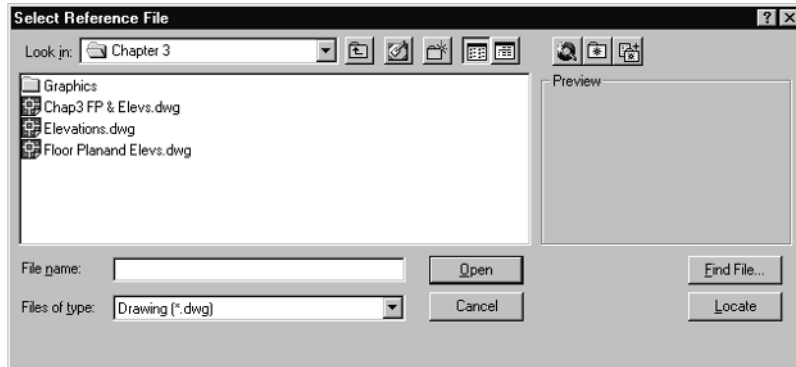

Figure 4-70
5. Pick **Xref Manager** from the Insert pull-down menu, and pick the **Attach** button. A new dialog, shown in Figure 4-70, will pop up. Navigate to the file that you have been working on with the floor plan, foundation plan, roof plan, section, and elevations. Select it and then pick the **Open** button.